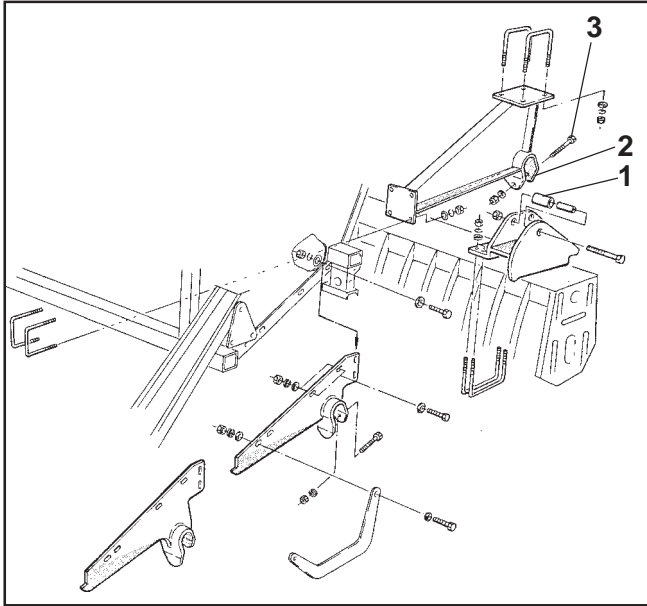

Fig. 7.4
- Bring together bearing shafts (Fig. 7.4/1) and catching pockets (Fig. 7.4/2) secure with pins (Fig. 7.4/3) and counter secure with spring clips.